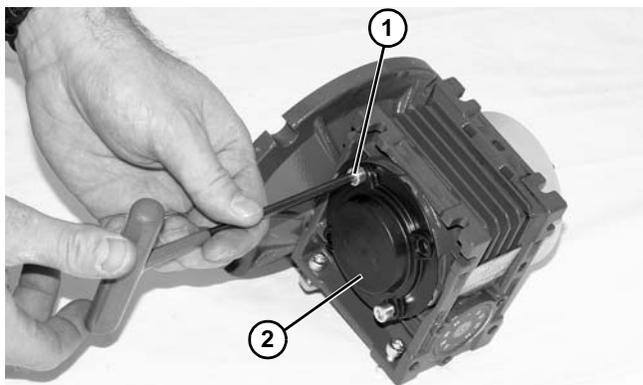

Figure 22
- Remove two (2) screws (**Figure 22, item 1**) and detach output shaft cover (**Figure 22, item 2**).